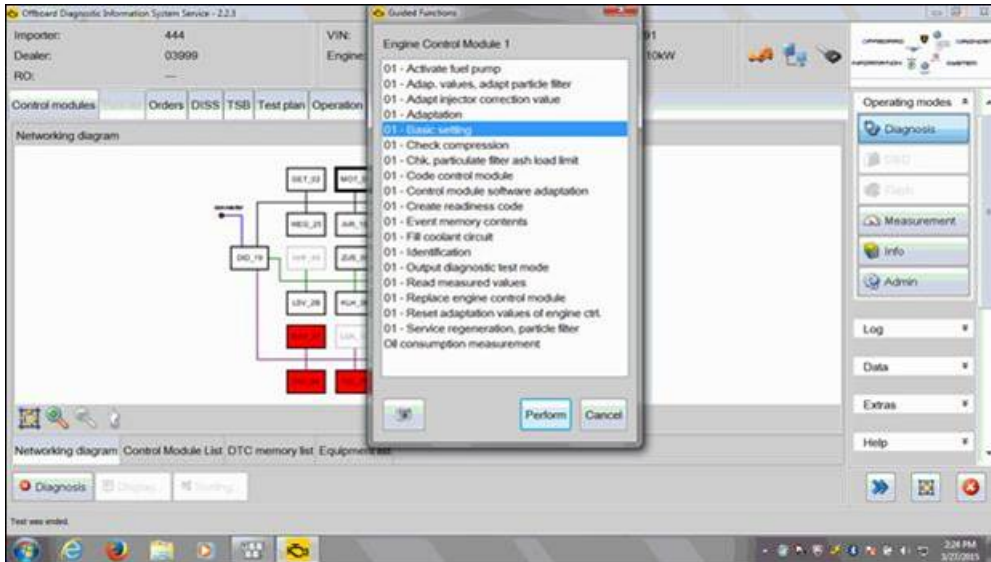

Figure 8
- Highlight “Basic settings” and click perform (Figure 8).